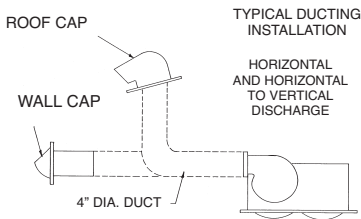

FIG. 4
4. Install grille by hooking one end of the two springs provided in the holes in either end of the housing. Hook the other ends of the springs in the small holes in the grille. (See Fig. 4).